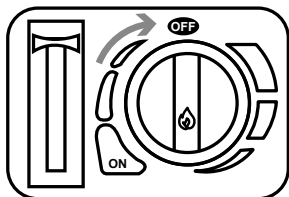
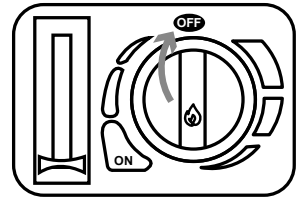

Fig. 1
Fig. 5
- Make sure the control knob is turned all the way clockwise to the "OFF" position (Fig.1)
- If empty, replace the canister and begin from (Fig. 1).
- Turn the ignition knob to “OFF” to shut off fuel supply (Fig. 5). Wait until the flame is fully extinguished before performing the next step. Raise the canister lock lever to “UNLOCK” and remove the gas canister from the compartment. (Fig.1)